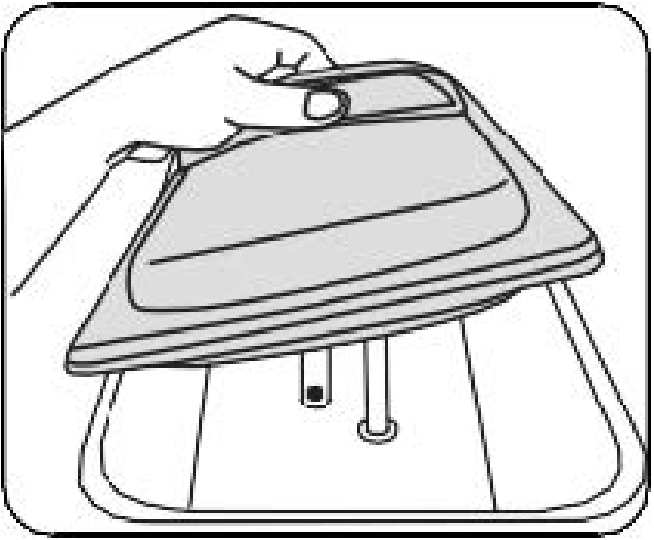
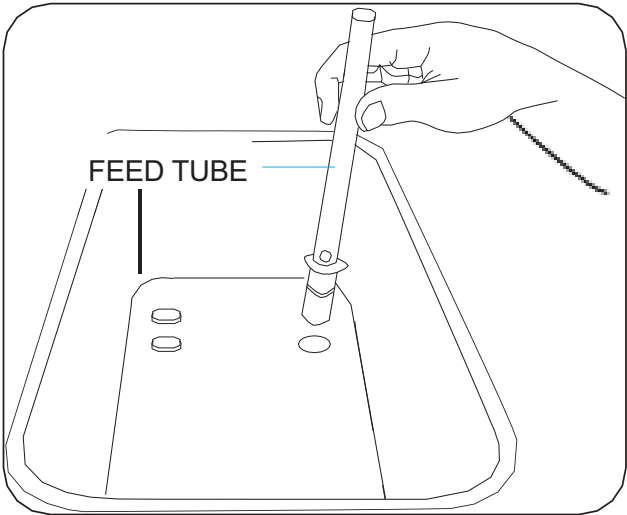

Figure 4-29
Figure 4-30
2. Remove the hopper cover (Figure 4-29) and take out the feed tube, feed tube body (Figure 4-30).